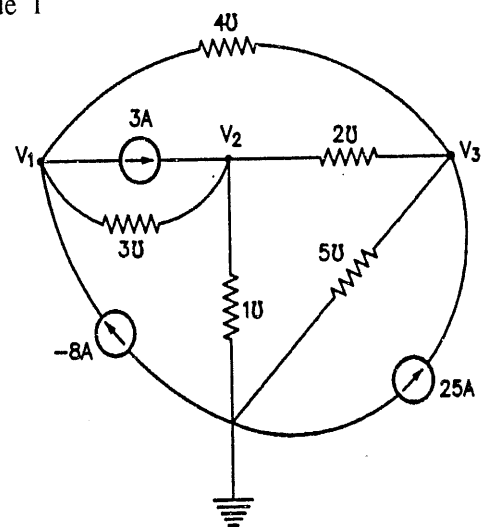

FIG. 1.86
- Let us demonstrate this method of writing node equations by taking an example of circuit shown in Fig. 1.86.